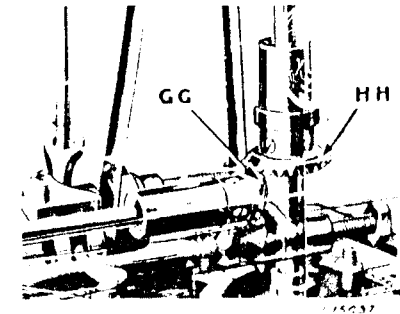

Fig. 27
Before removing the hook shaft from the machine, the gears (GG and HH, Fig. 27) should be marked with chalk or red pencil on one tooth of one gear and the corresponding space in the other gear. This is important, as the gears may become dislodged when removing the shaft, and the marks will enable you to retain the original relative position of the gears.
To remove the hook shaft, loosen the two set screws in the gear (GG, Fig. 27) at the right end of the hook shaft, and hold the gear, with the fingers, in mesh with the gear (HH) while withdrawing the old hook shaft and inserting the new shaft.